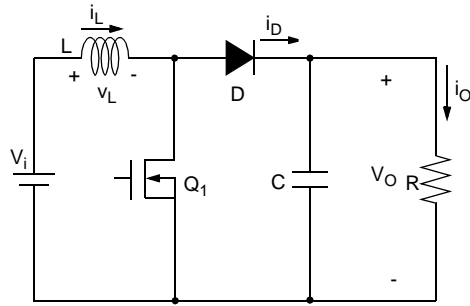

Figure 1. Basic circuit of a Step-up converter
The step-up converter accepts a DC voltage input and provides a regulated output voltage which must be greater than the input voltage. The basic circuit configuration of a step-up converter is shown in Figure 1. When switch (Q1) is turned on, the supply voltage V_i is applied across inductor (L). The diode (D) is reverse biased by voltage V_o . Energy is transferred from the input supply voltage to the inductor. When switch (Q1) is turned off, the energy stored in the inductor (L) induces a voltage such that the diode conducts and delivers the energy to the output load (R) and the output capacitor (C). In addition to the energy stored in the inductor, additional energy is transferred from the input directly to the output during the diode conduction time.